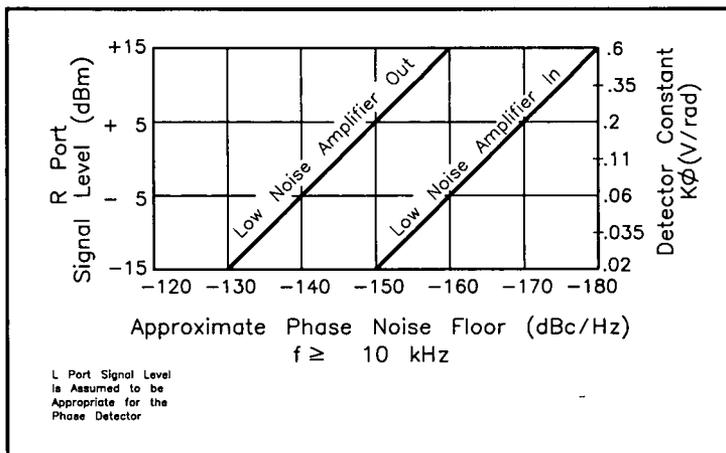

Figure 4-7. Phase Detector Sensitivity
- Locate the power level you measured on the left side of the Phase Detector Sensitivity Graph (Figure 4-7). Now move across the graph at the measured level and find the corresponding Phase Detector constant along the right edge of the graph. This is the value you will enter as the "Current Detector Constant" when you define your measurement. (Note that the approximate measurement noise floor provided by the R port level is shown across the bottom of the graph.)